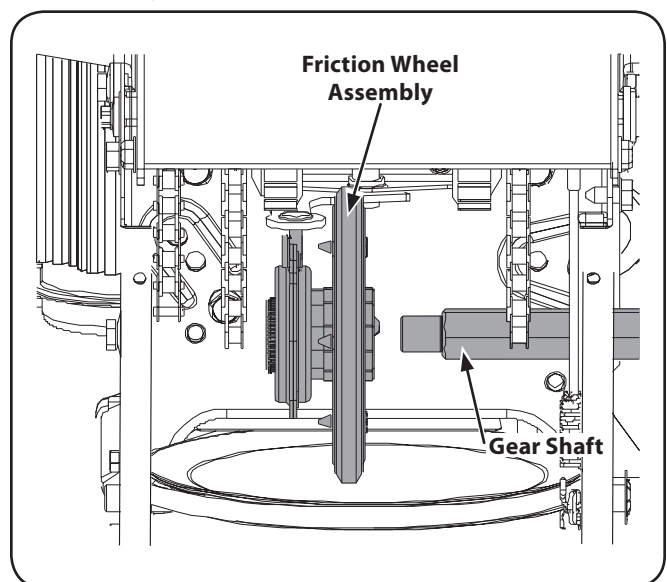

Figure 7-9
5. Move the gear shaft to the right and slide the friction wheel assembly from the shaft. See Fig. 7-9.
10. Position the friction wheel assembly up onto the pin of the shift rod assembly, and slide the shaft through the assembly. See Fig. 7-9. Reassemble in reverse order.